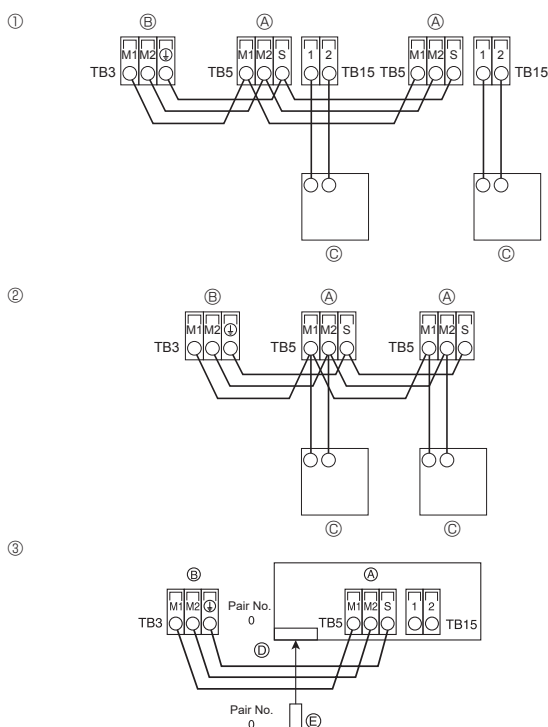

Fig. 6-3
6.4. Connecting remote controller, indoor and outdoor transmission cables (Fig. 6-3)
① MA Remote controller
② M-NET Remote controller
③ Wireless remote controller